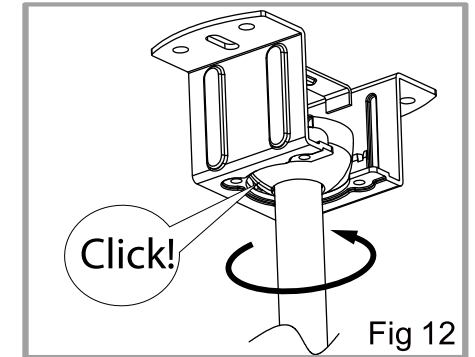

Fig 12
- 2) Ensure the concave groove of the hanger ball is positioned on the hanger lug of hanger bracket. (fig 12)